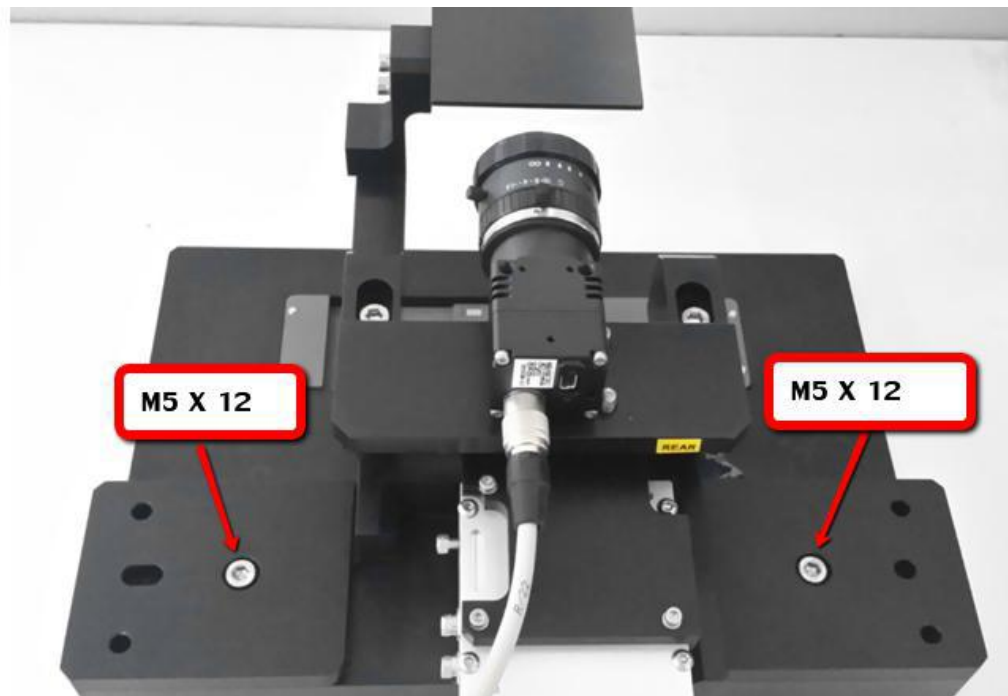

Figure 2 OFFLINE JIG ASSEMBLY
2. Assemble the PSP 2 Module at "STD/XXL PSP Adjustment Offline Jig" by using M5 X 12 as below Figure 2.